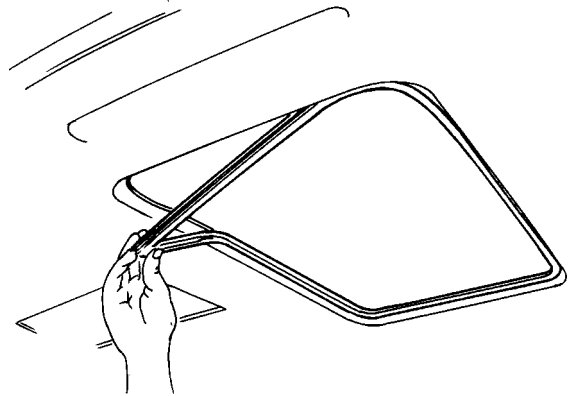

FIGURE 23
- 1.) REMOVE MOONROOF TRIM RING FROM HEADLINER. (SEE FIGURE 23)